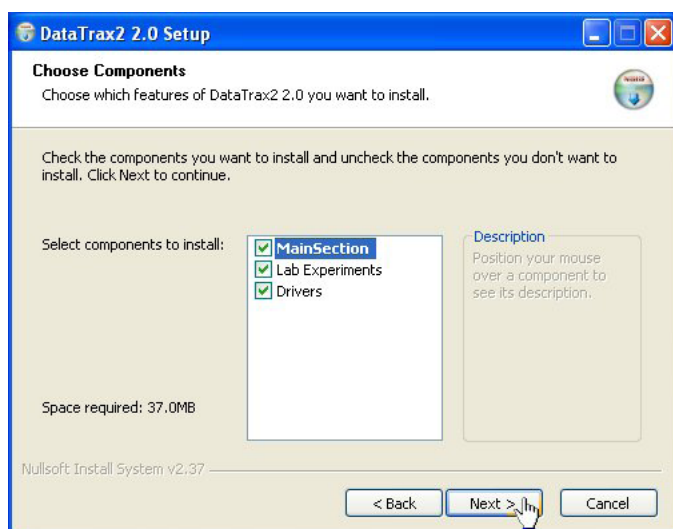

Fig. 21—Component Choice
3. After reviewing the license agreement, click the **I Agree** button. The wizard will then ask for a choice of components to install (**Fig. 21**).